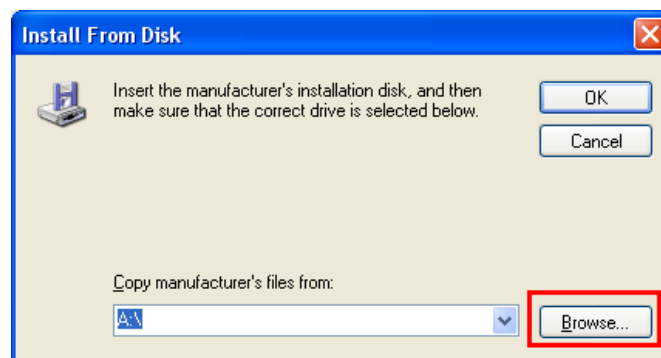

Fig. 2-10 Select the target file of driver
- 4) Click [Have Disk...] button in the following dialog, as shown in Fig. 2-10.